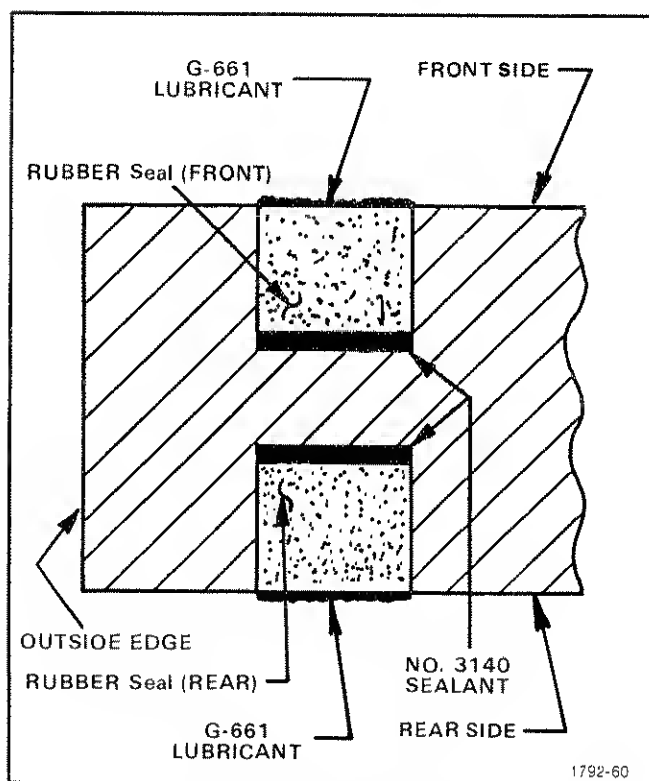

Fig. 5-6. Rubber Seals, edge sealing for subpanel.
2. Apply a film of No. 3140 sealant to the inner surface of each groove. See Fig. 5-6. Do not apply the sealant to the other surfaces of the grooves. No. 3140 is more fluid than No. 3144 and can be applied with a hypodermic type applicator.
4. Before installing the instrument in a cabinet, lubricate the outer edges of the seals as shown in Fig. 5-6.